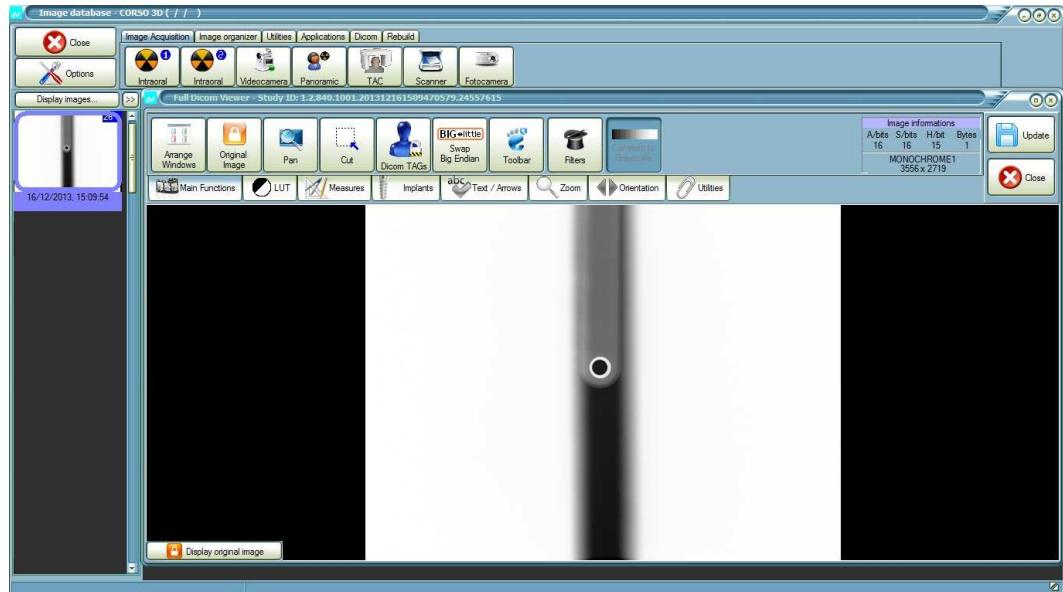

Figure 7-6
**17.** Check on the image if the Ear Centering Circles are concentric (small circle inside the big circle – i.e. as shown in Figure 7-6).